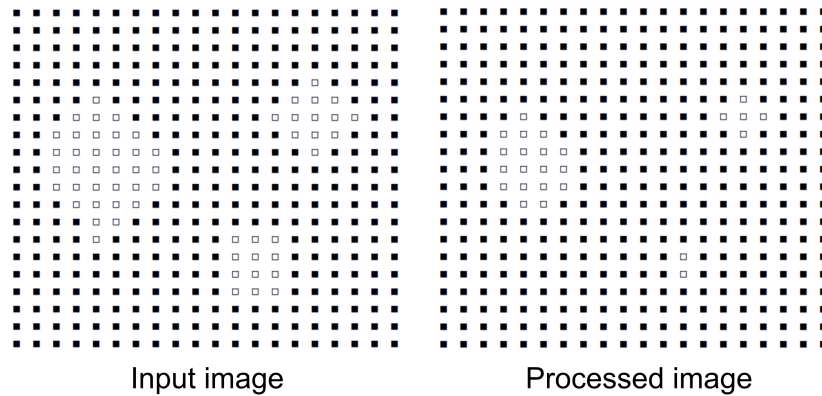

Figure 6: Original and processed images as represented in the terminal.
5. **Show original image:** During this phase, a graphical representation of the original image is printed in the terminal. Use this to ensure that your program did not affect the original image stored in memory. You can see the graphical representation of the input image in Figure 6.
6. **Show processed image:** During this phase, a graphical representation of the processed image is printed in the terminal. Use this to ensure that your program works as expected. You can see the graphical representation of a processed (eroded) image in Figure 6.